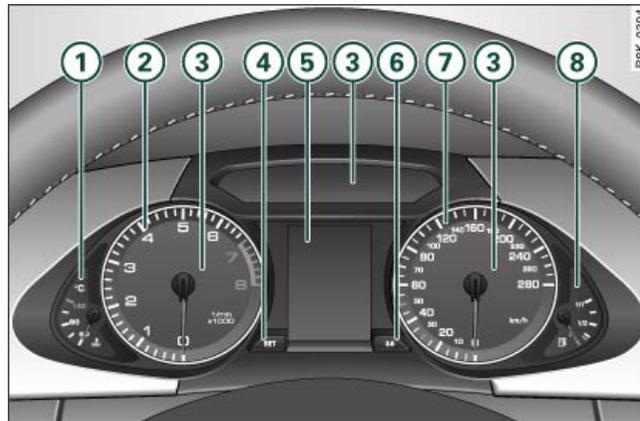

Fig. 2 Overview of instrument cluster
The coolant temperature gauge ① ⇒ fig. 2 only works when the ignition is switched on. In order to avoid possible damage to the engine, please read the following notes for the different temperature ranges.